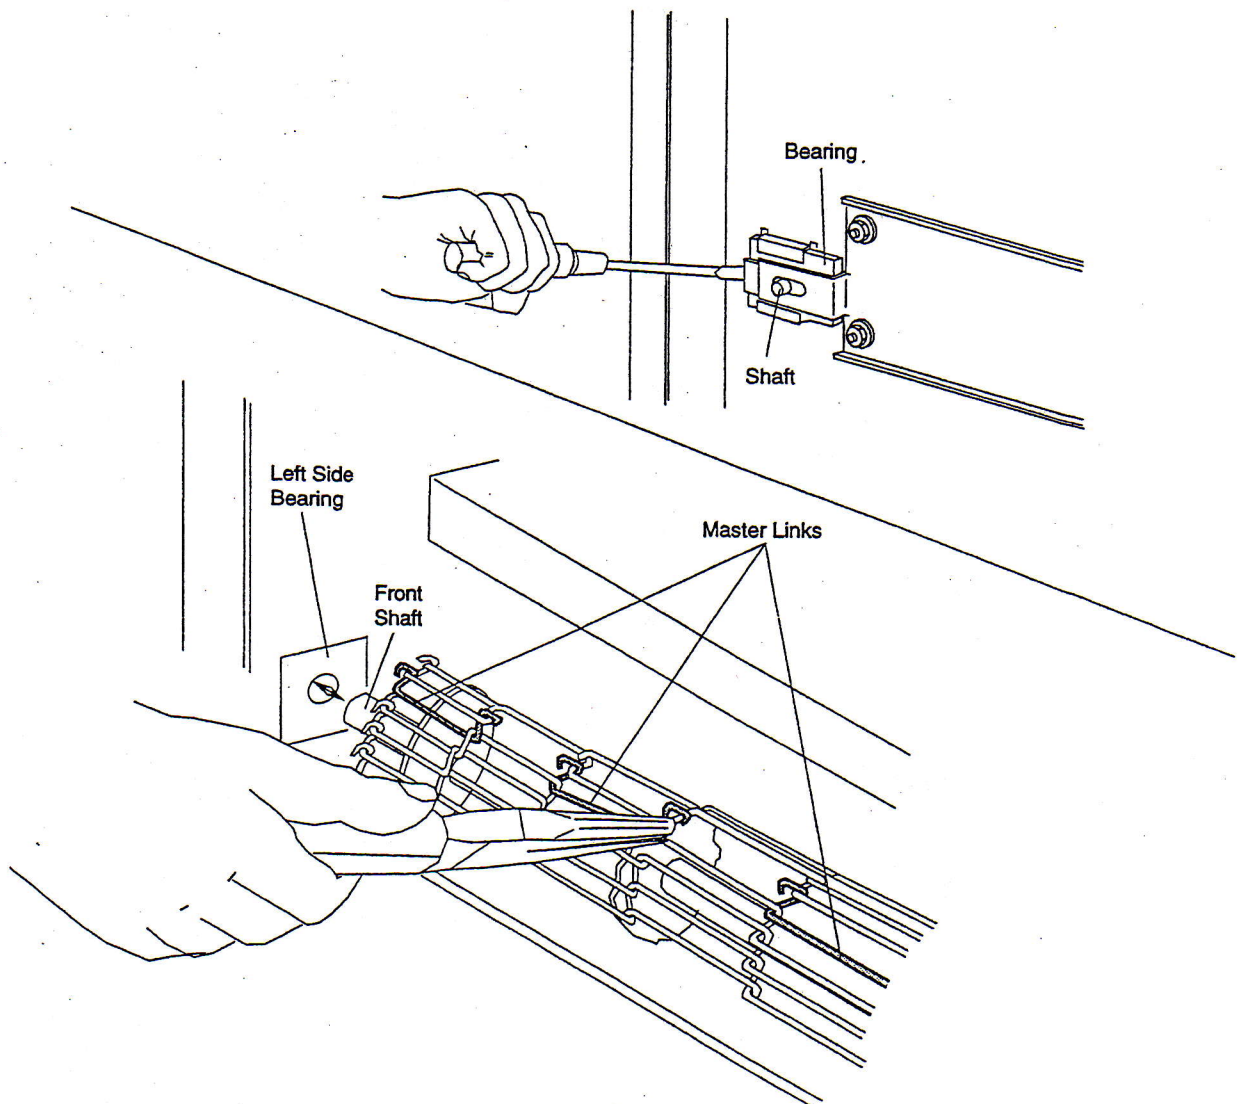

Figure 9
1. Remove the right and left side covers by removing the 6 screws on each side. On right side of toaster use a screwdriver to push the bearing as shown. With the hole in the bearing lined up with the slot in the retaining plate, push the conveyor shaft thru the slot. See Figure 9.
2. To remove all tension on the conveyor belt push the conveyor shaft as far as possible toward the right side until the left end of conveyor shaft is free of the left side bearing. See Figure 9.
3. Turn the conveyor belt so the master links are at the front of the toaster. See Figure 9.
6. Push the left side bearing with a screwdriver as shown in Figure 9 and reinsert the shaft into the bearing. Release the shaft from the right side support slot and center the shaft between the side walls.